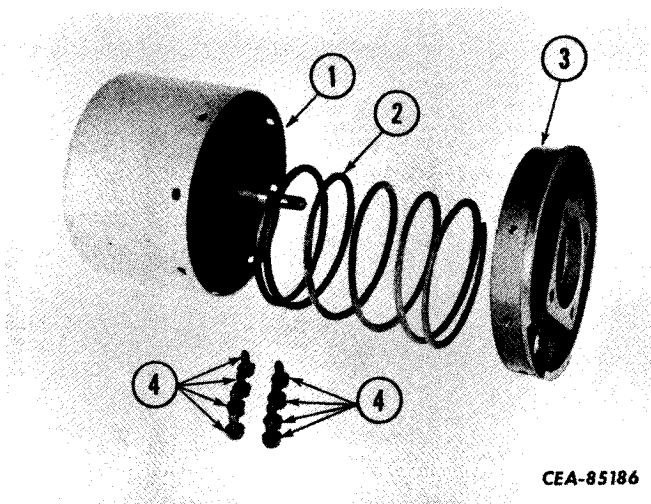

Figure 13-59
Remove the cap screws and lock washers (4, Fig. 13-59) that fasten the shell (1) to the head (3). Remove the head and the piston return spring (2).